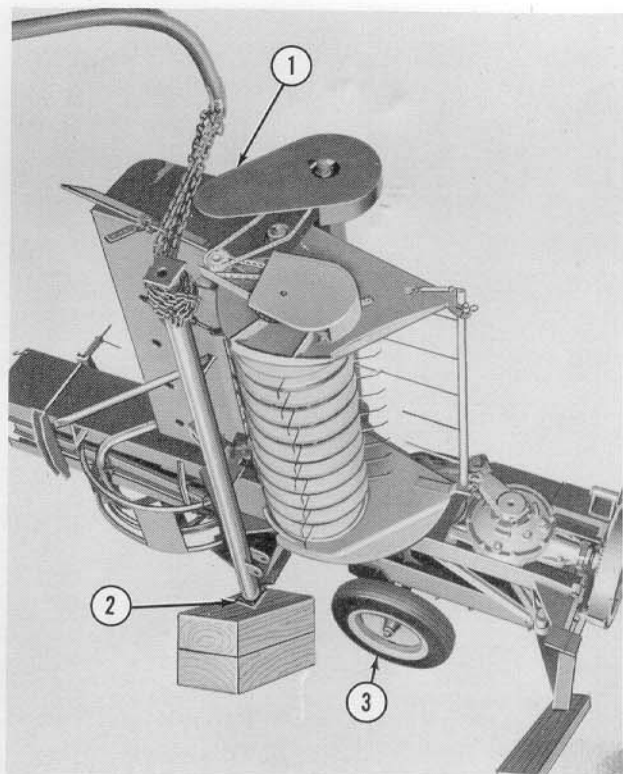

Figure 37
5. Continue to back up the tractor slowly and lower the loader crane slightly, taking care not to damage the chain shield (1), Figure 37. Lower the baler until the end of the axle is supported on the wood blocks as shown at (2). At this point, the weight of the baler will be off the wheel (3).